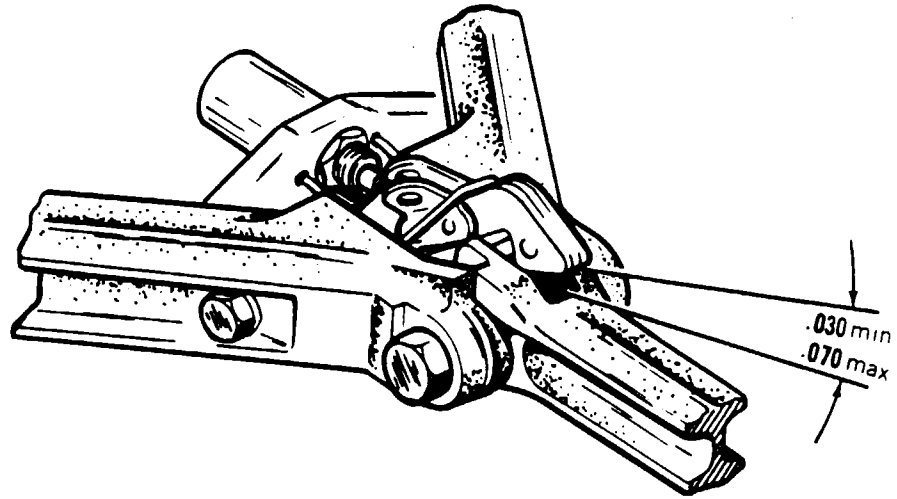

Figure 32-26. Adjusting Main Gear Down Light Switch
ADJUSTMENT OF MAIN GEAR DOWN LIGHT SWITCH. (Refer to Figure 32-26.)
- B. With hook raised, place a .070 of an inch wire feeler gauge between the hook and bottom surface of the slot in the side brace link. (Refer to Figure 32-26.)